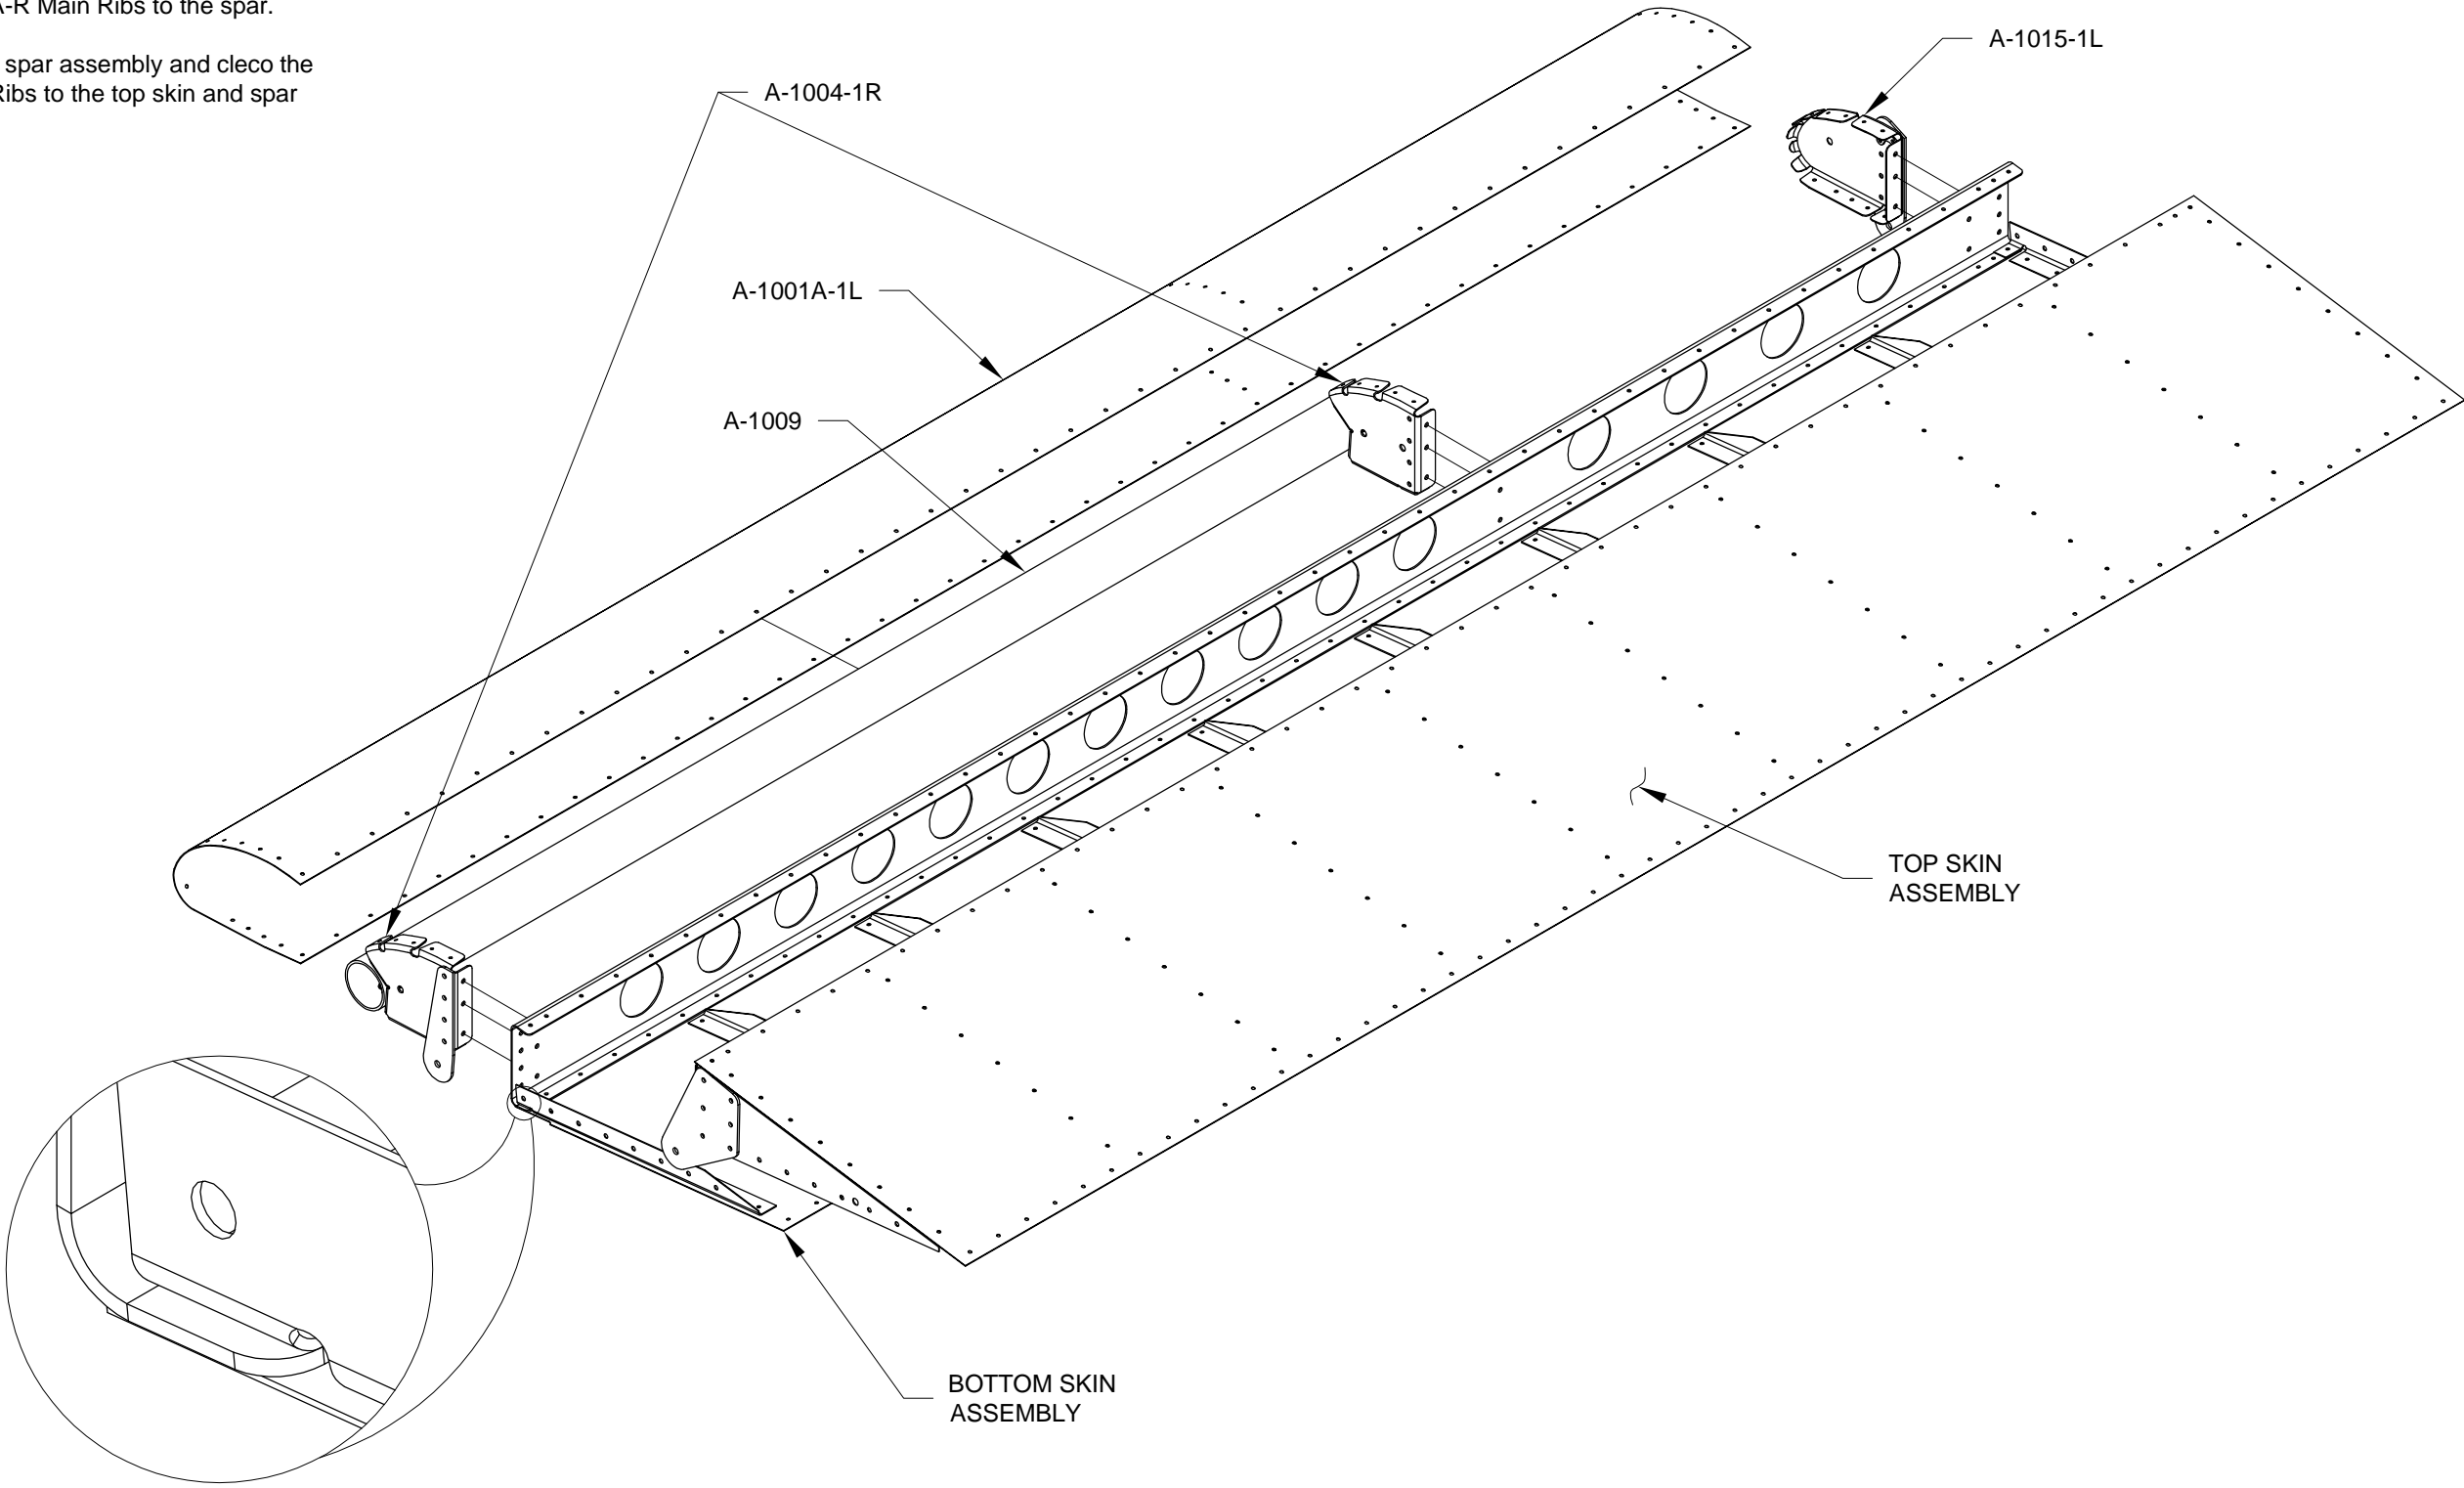

FIGURE 1: FITTING ASSEMBLY
Step 1: Lay the assembly flat on the table top hanging the clecos which are holding the A-1001A-1L Nose Skin to the A-1002-1 Bottom Skin and A-1003-1L Spar over the edge. Use weights over the main ribs to keep it firmly against the table with no twist. A straight board can be used to distribute the weight and hold the aileron flat to the table. See Figure 1.